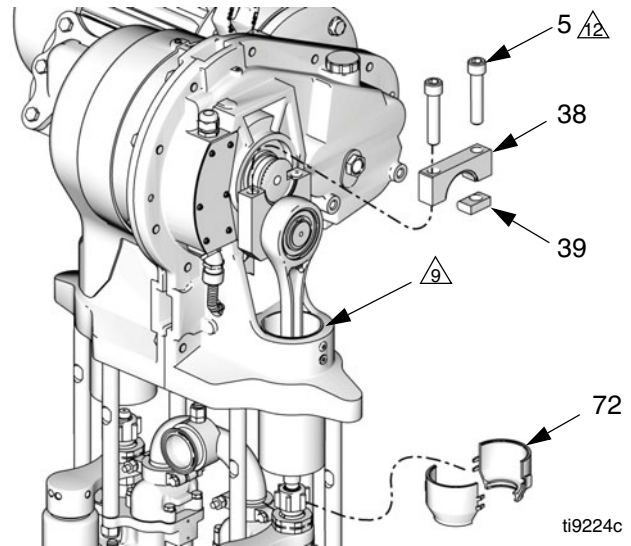

FIG. 6. Install Crank Arm Cap
- Slide the piston (9) and connecting rod (7) into the cylinder (2).
- Position the crank arm (4*) to engage the output shaft (OS), and rotate it to the bottom of the output shaft.
- See FIG. 6. Place a clean rag over the top of the slider cylinder (2) to prevent debris from falling into the slider assembly during reassembly.
- Apply antiseize lubricant (LPS[®]-04110 or equivalent) to the threads of the cap screws (5). Install the key (39), crank arm cap (38), and cap screws (5), oriented as shown. While the gap-side screw is still loose, torque the key-side screw to 210-230 ft-lb (283-310 N•m). Then torque the gap-side screw to 210-230 ft-lb (283-310 N•m). Torque screws an additional 2-3 times each, or until they stop turning when torqued to 210-230 ft-lb (283-310 N•m).
- Place clean rag over slider cylinder (2).
- Apply antiseize lubricant (LPS[®]-04110 or equivalent) to screw (5) threads. Torque key-side screw to 210-230 ft-lb (283-310 N•m) first, then torque gap side screw to 210-230 ft-lb (283-310 N•m). Torque screws an additional 2-3 times each, or until they stop turning when torqued to 210-230 ft-lb (283-310 N•m).